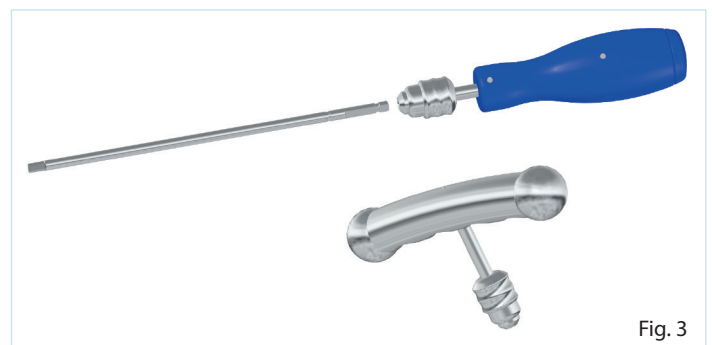

Fig. 3
– Select appropriate screwdriver size for extraction of the screw. Connect the screwdriver with the axial holder or T-holder (Fig. 3). In no circumstances connect the screwdriver with an electric drill.